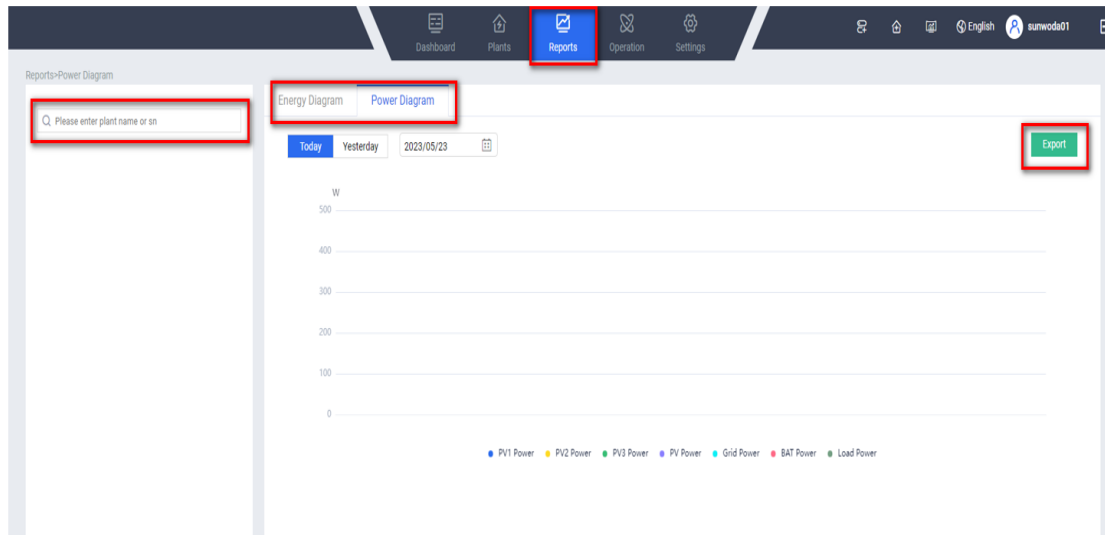

Figure 4.25
(3) You can refer to the location of the red box on the following page for viewing and exporting energy and power reports for the relevant sites and devices (Fig. 4.25) .